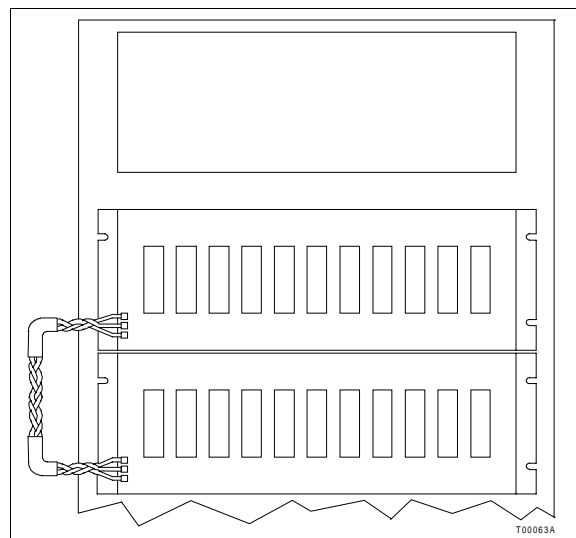

Figure 3-2. Controlway Cable Installation
1. Attach one end of the Controlway or module bus cable (twisted 3-wire) to the bottom three tabs on the lower left of the MMU backplane (facing from behind). Refer to Figure 3-2.